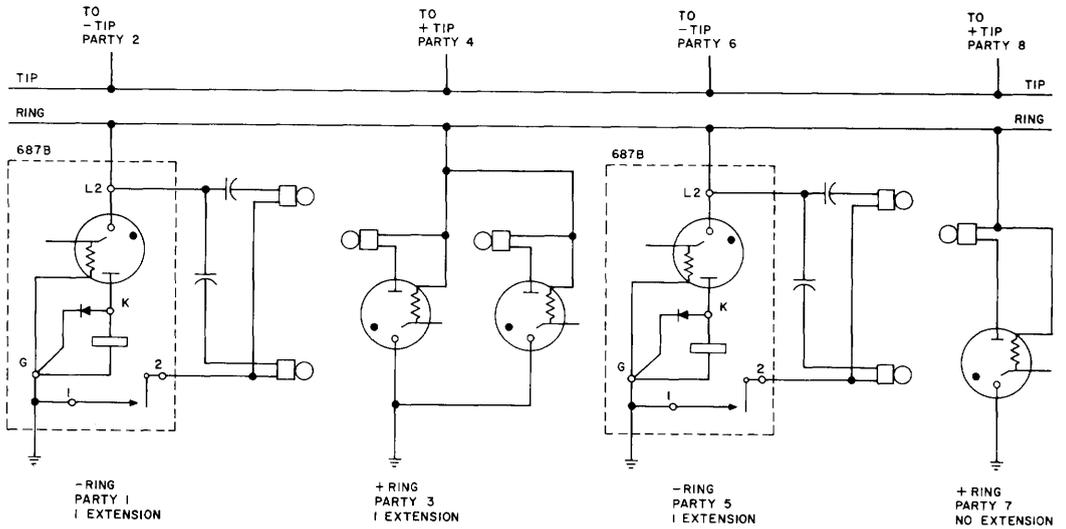

Fig. 7—Application of 687B Subscriber Set
5.05 Fig. 7 shows examples of 687B subscriber set application to an 8-party semiselective line with no inductive interference.
5.06 For example, to install ringer at party 5 (Fig. 7), use 687B subscriber set at party 5 *and* at party 1.
5.07 Fig. 7 shows four tube controlled, high-impedance capacitor ringing bridges connected for negative polarity on the ring side of the line.
5.08 To install an extension ringer connected for positive polarity at party 7 (Fig. 7), use 687B subscriber set at both party 7 *and* party 3.